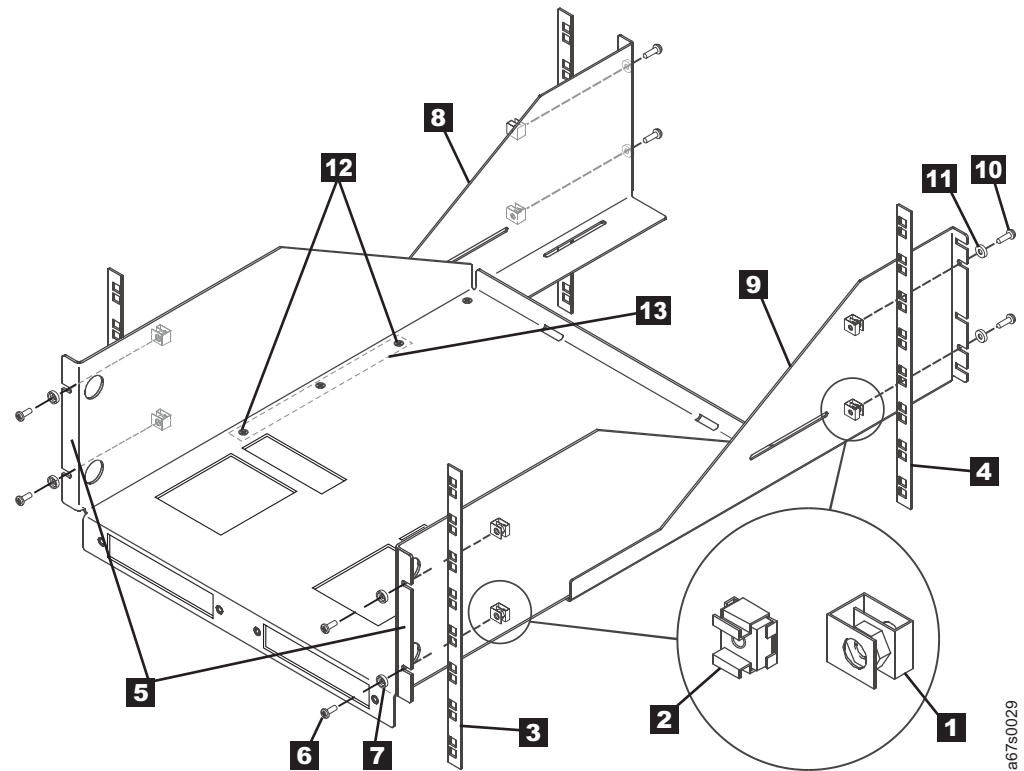

Figure 45. Installing the rackmount tray into the rack
5. On each of the rack's four vertical rails (Figure 45 on page 117 shows the two front rails **3** and the two rear rails **4**), install a panel nut **1** or cage nut **2** at the bottom boundary.
- Figure 45 on page 117 shows both panel nuts and cage nuts, but you must only install one type of nut.